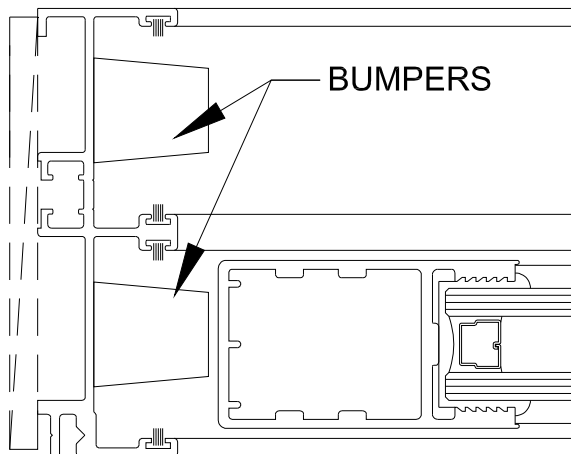

Figure 19
15. Install bumpers in active jamb tracks (with enclosed fasteners) approximately near center. (See Fig. 19)